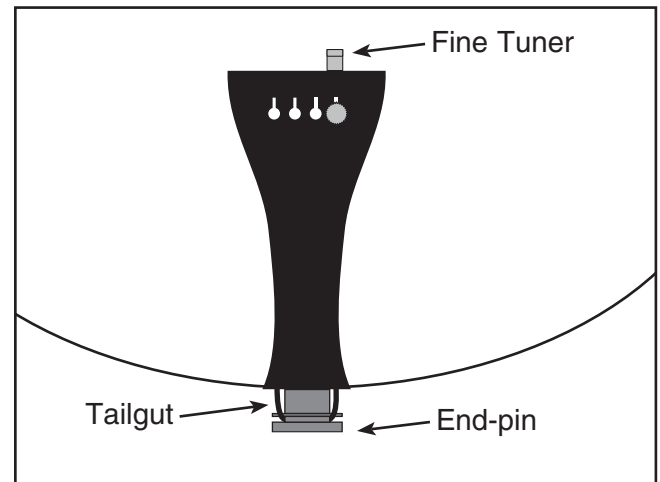

Figure 13. Tailpiece.
3. Install the fine tuner to the tailpiece as shown in **Figure 13**.
4. Slide the tailgut over the end-pin. Note—*The end of the tailpiece should align over the end of the top piece (Figure 13).*